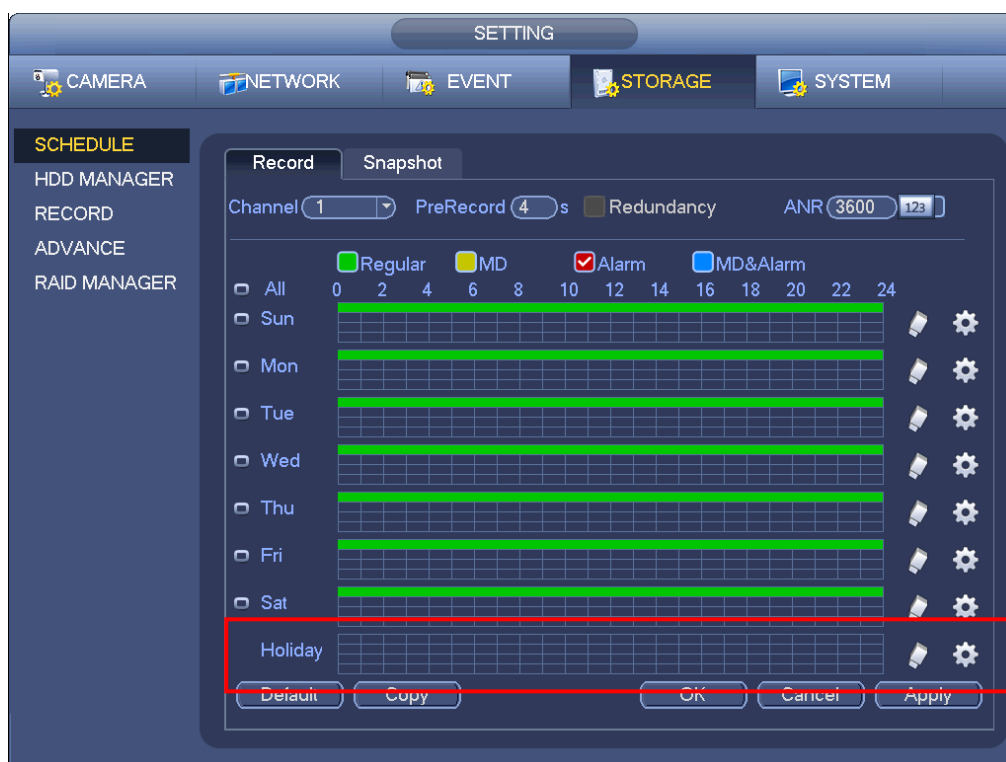

Figure 4-63
In the main menu, from Main menu->Setting->Storage->Schedule, you can go to schedule menu. See Figure 4-63. There are total six periods.
In the main menu, from Main menu->Setting->Storage->Schedule, you can go to schedule menu. See Figure 4-63. Here you can set snapshot period. There are total six periods in one day. Please refer to chapter 4.10.2.1 for detailed setup information. The setup steps are general the same.
- g) From Main menu->Setting->Storage->-Schedule. See Figure 4-63
- h) Set motion detect record channel, period and the record type shall be motion detect (MD). Please refer to chapter 4.10.2.
- d) From Main menu->Setting->Storage->Schedule, you can go to Figure 4-63.